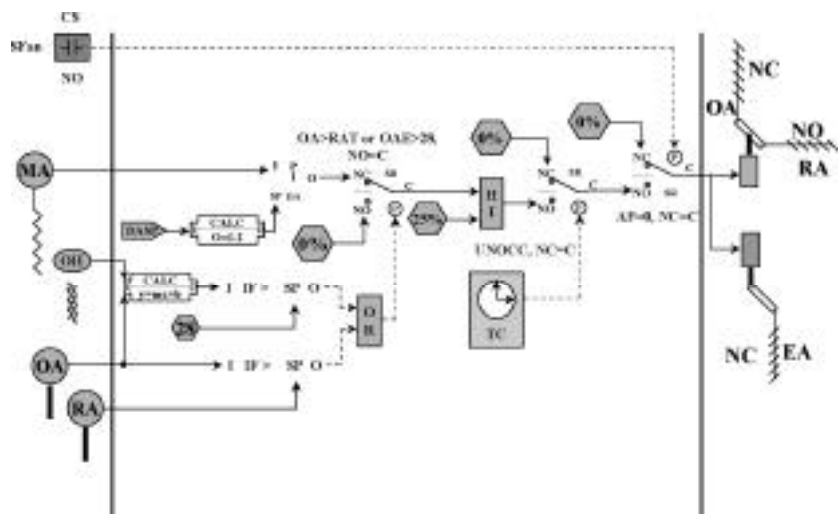

FIGURE 3. An example of a mixed-air control-loop logic diagram.
Figure 3 is an example of a mixed-air control-loop logic diagram used in teaching mixed-air-subsystem control logic. Simply writing, "The mixed-air dampers shall open on a demand for cooling before the cooling coil opens and maintains minimum ventilation air, except when outside air is too warm for
- The control-loop response (proportional, proportional plus integral [PI], or proportional plus integral plus derivative). In Figure 3, PI control is called for.
- How the mixed-air setpoint (MASP) is determined (is it fixed or reset, and, if it is reset, on what is it based?). In Figure 3, the MASP is reset based on the discharge-air setpoint (DASP) minus 2 F.
- What determines that it is too warm for free cooling. In Figure 3, the high limit is initiated when the outside-air temperature (OAT) exceeds the return-air temperature (RAT) or when the outside-air (OA) enthalpy exceeds 28 Btu per lb.
- What happens if the fan runs in an unoccupied mode. For the logic shown in Figure 3, the minimum OA requirement is interrupted if the unit runs when the space, according to a time schedule, is unoccupied.
- How the minimum OA requirement is handled. In Figure 3, a fixed 25-percent signal is generated to ensure ventilation air when the space is occupied, and the fan is running.
- What happens if the fan is off. The logic in Figure 3 shows a supply-fan current switch sending the outside-, return-, and exhaust-air dampers to their normal positions.